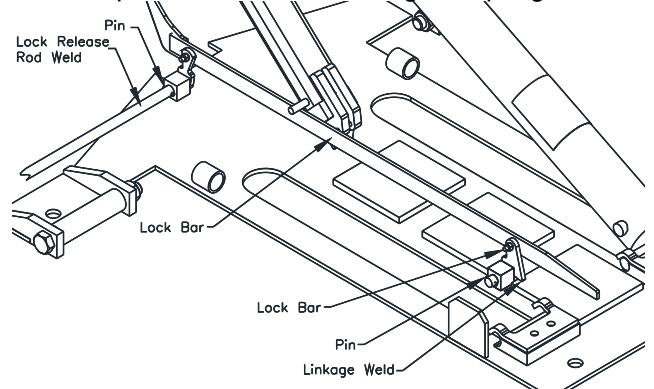

Fig. 6 Lock Release Bar
21. For **Flush Mount only**, slide lock rod support bracket over free end of lock rod before the handle is attached to the end, See **Fig. 6**. Install the handle using the Spring Pin. *Also*